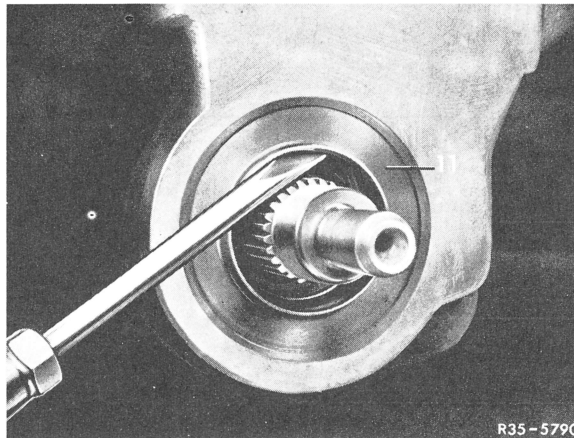

Fig. 5
- 8 Force sealing ring out of rear axle housing by means of a screw driver (Fig. 5).